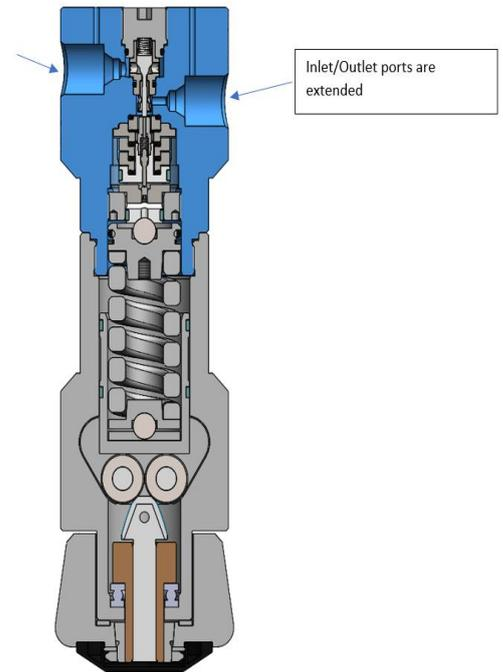

Figure 7: RPL-X21 Split section view
- [1] in figure 7 refers to Spare Part 01-00432 Valve Seat with Guide.
- [2] in figure 7 refers to Spare Part 01-00438 Valve Seat with Guide and Filter.